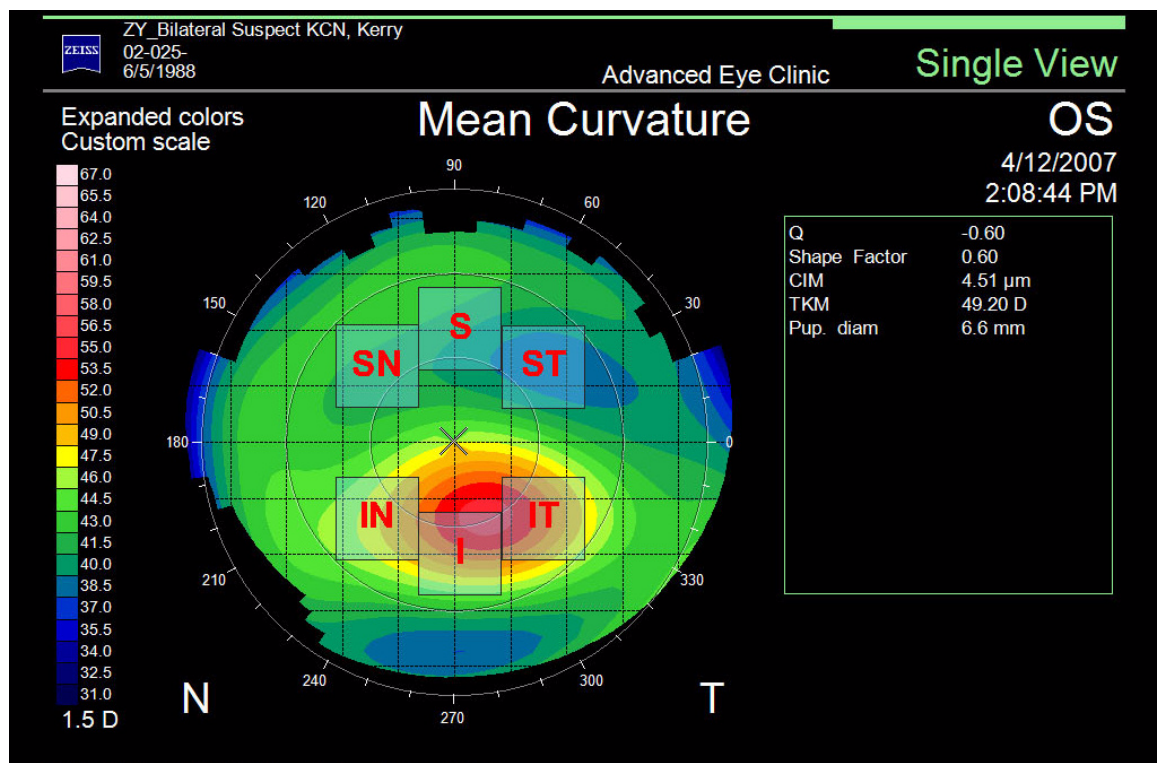

Figure A-7 Mean Curvature Regions for an OS Eye
Difference between an Inferior (I) and Superior (S) region of mean curvature data (Mean Curvature Inferior minus Superior). See Figure A-7. The average value in the region is taken, where the region in each area is 1.5 mm wide x 1.5 mm high, centered radially 2 mm away from the corneal vertex at 270 and 90 degrees.
Difference between an Inferior-Nasal (IN) and a Superior-Temporal (ST) region of mean curvature data around the Vertex (Mean Curvature Inferior-Nasal minus Superior-Temporal). See Figure A-7. The average value in the region is taken, where the region in each area is 1.5 mm wide x 1.5 mm high, centered radially 2 mm away from the corneal vertex at 225 and 45 degrees.
Difference between an Inferior-Temporal (IT) and a Superior-Nasal (SN) region of mean curvature data around the Vertex (Mean Curvature Inferior-Temporal minus Superior-Nasal). See Figure A-7. The average value in the region is taken, where the region in each area is 1.5 mm wide x 1.5 mm high, centered radially 2 mm away from the corneal vertex at 315 and 135 degrees.